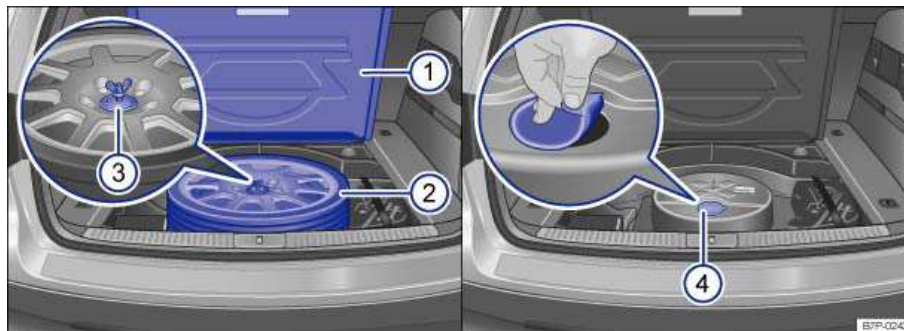
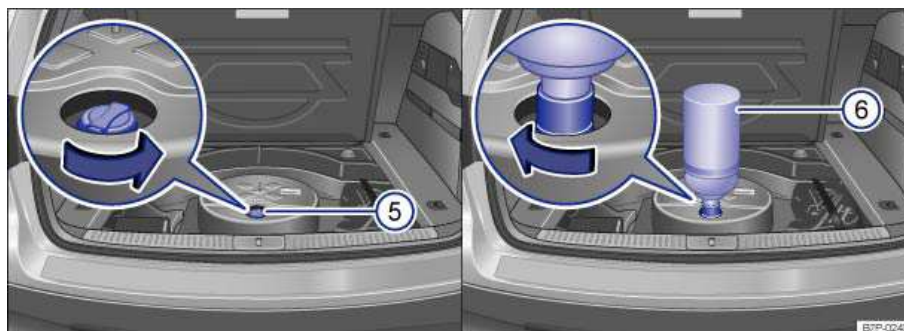

Fig. 308 Luggage compartment with collapsible spare tire and AdBlue tank.
Fig. 309 AdBlue tank with filler neck cap and refill container.
Key to ⇒ fig. 308 and fig. 309:
- Fold up the luggage compartment floor panel ⇒ fig. 308 \(1\) and hook it open or, if you have a reversible luggage compartment floor panel, take this out
- Take out the collapsible spare tire (2)- Unscrew the fastening screw (3) with washer counterclockwise and take out the collapsible spare tire.
- Pull off the plug (4) in the spare tire well.
- Unscrew the tank filler neck cap ⇒ fig. 309 \(5\) counterclockwise and remove.
- Screw in the fuel filler neck cap (5) clockwise until the cap locks into place.
- Put the plug ⇒ fig. 308 \(4\) back in the spare wheel recess and make certain it is properly placed and secure.
- Put the collapsible spare tire (2) back in the spare wheel recess and secure it with the fastening screw (3) and washer.
- Unhook the luggage compartment floor panel (1) and fold down or, if you have a reversible luggage compartment floor panel, put this back in ⇒ *Luggage compartment*.